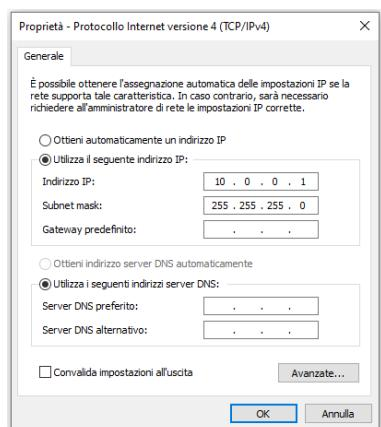

Fig. 5.10: Windows "Internet Protocol Version (TCP/IPv4) Properties"
5. Configure the "Internet Protocol Version (TCP/IPv4) Properties" as in Fig. 5.10.